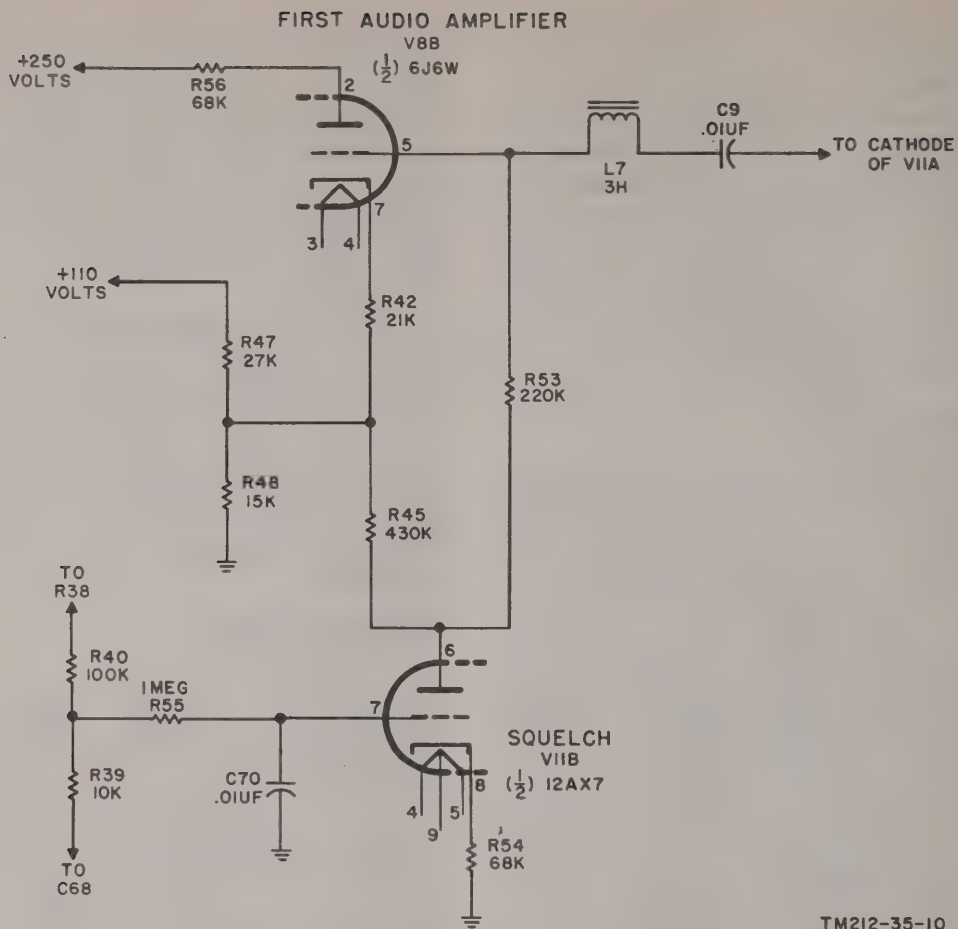

Figure 10. First audio amplifier V8B and squelch V11B.
(fig. 10)
a. Squelch tube V11B is used to silence the audio portion of the receiver when there is no RF signal being received. This prevents the appearance of annoying hiss, crackle, and noise in the telephone. First audio amplifier V8B is allowed to conduct normally when an RF signal of the proper magnitude is being received. The bias voltage for V8B is developed across cathode resistor R42 (fig. 10) and appears between grid and cathode.
b. Plate voltage for squelch tube V11B is obtained from the junction of resistors R47 and R48 and applied through R45 (fig. 10). Resistors R47 and R48 are connected across the positive 110-volt supply and ground. The grid of squelch tube V11B is connected through R55 to the junction of R39 and R40. Resistors R39 and R40 are part of the *age circuit* and the potential at the junction of R39 and R40 will vary as the RF signal strength varies (par. 14).
c. When a strong RF signal is being received, the junction of R39 and R40 will be negative in relation to ground. The grid of the squelch tube which is connected to the junction of R39 and R40 will also be negative. The negative voltage is sufficient to cut off the squelch tube. When the squelch tube does not conduct, it does not affect the bias on the grid of the first audio frequency (AF) amplifier. This allows normal operation of the AF amplifier.